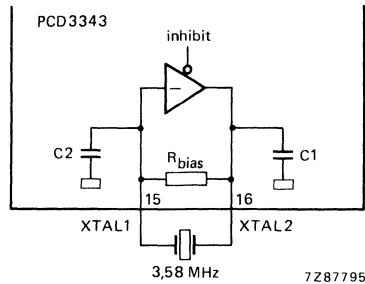

Fig. 16 Oscillator with integrated elements.
**FUNCTIONAL DESCRIPTION** (continued)**Oscillator** (see Fig. 16)